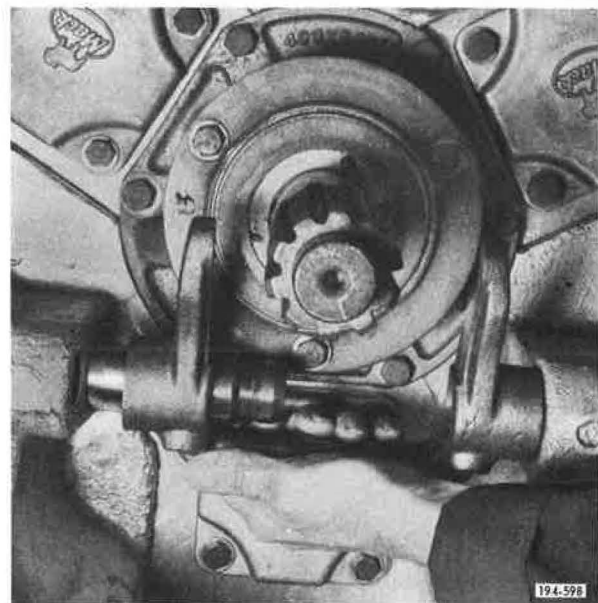

Figure 5-671. Removing Yoke and Stub Shaft
6. Slide clutch release stub shaft inward, and remove it with clutch release yoke. See **Figure 5-671**.